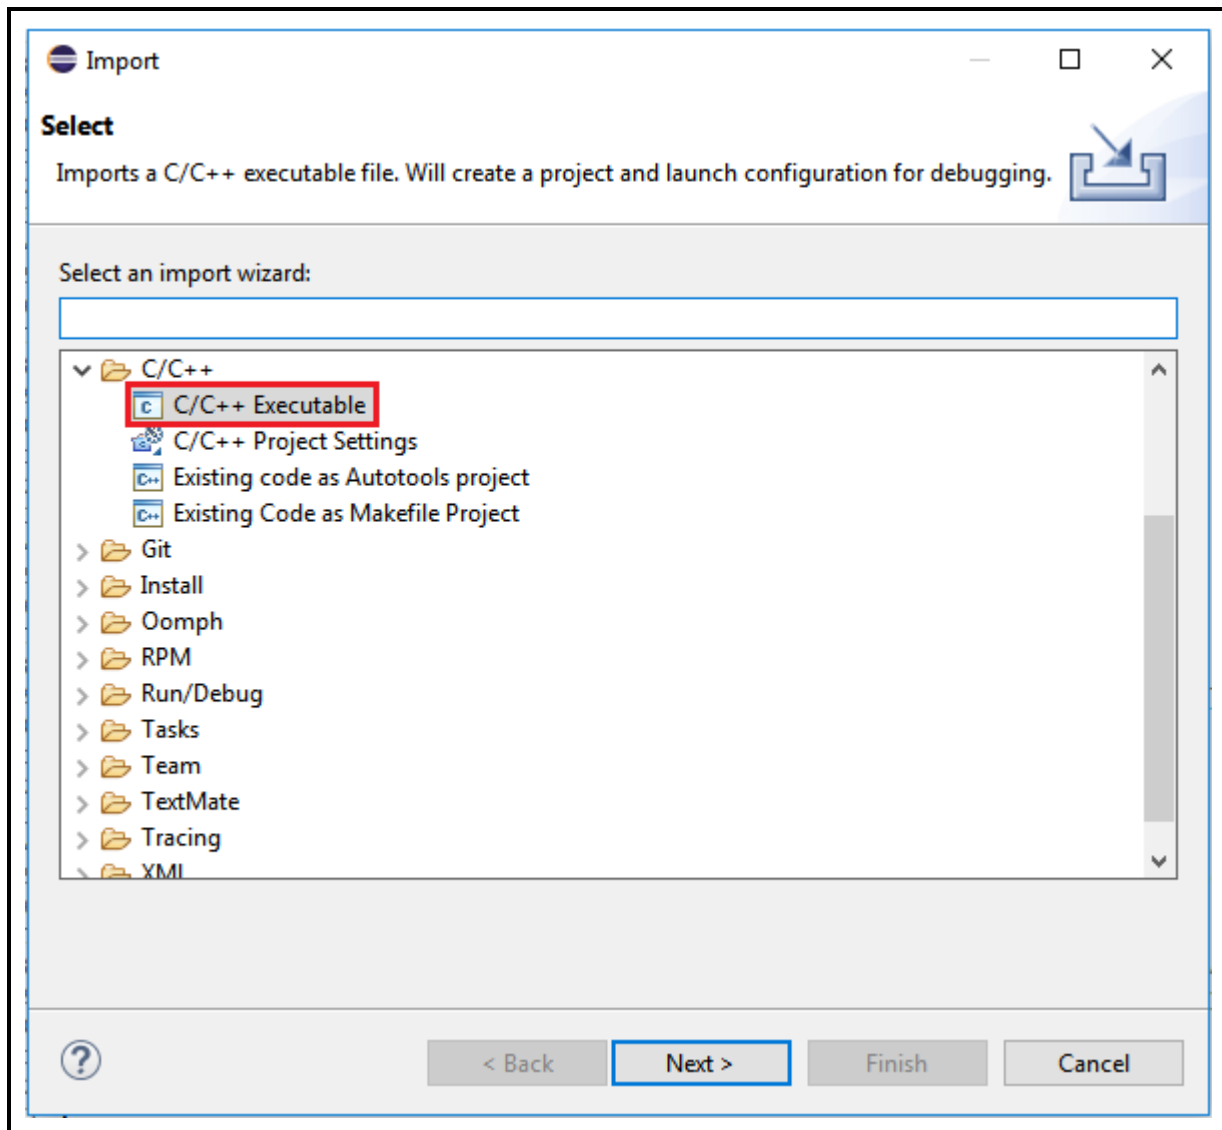

Figure 3-26 Importing Executable for Debugging
1. Import an executable for debugging (referring to Figure 3-26).